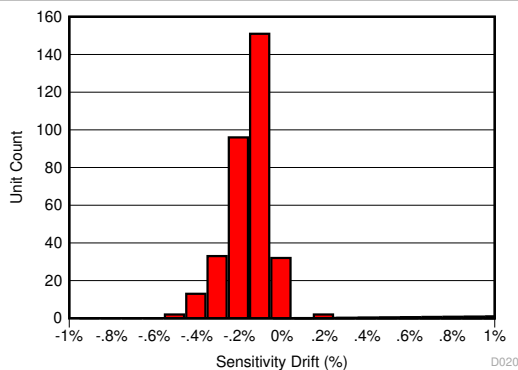
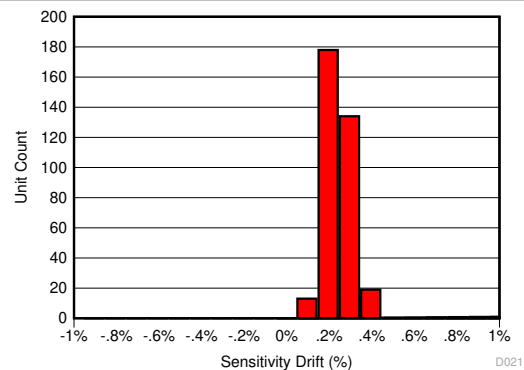
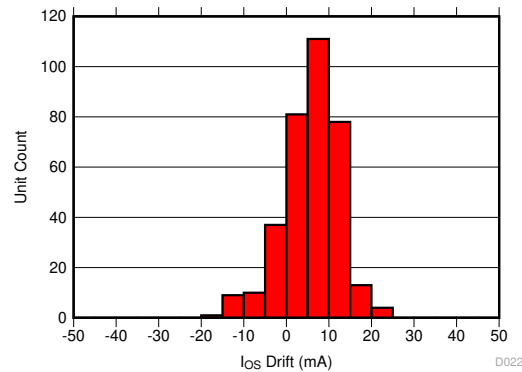

图 9-6. Sensitivity Error After 130°C, 85% RH HAST
图 9-7. Sensitivity Error Drift After AEC-Q100 High Temperature Operating Life Stress Test
图 9-8. Input-Referred Offset Drift After AEC-Q100 High Temperature Operating Life Stress Test
The same compensation techniques used in the TMCS1101-Q1 to reduce temperature drift also greatly reduce lifetime drift due to aging, stress, and environmental conditions. Typical magnetic sensors suffer from up to 2% to 3% of sensitivity drift due to aging at high operating temperatures. The TMCS1101-Q1 has greatly improved lifetime drift, as defined in the Electrical Characteristics for total sensitivity error measured after the worst case stress test during a three lot AEC-Q100 qualification. All other stress tests prescribed by an AEC-Q100 qualification caused lower than the specified sensitivity error, and were within the bounds specified within the Electrical Characteristics table. 图 9-6 shows the total sensitivity error after the worst-case stress test, a Highly Accelerated Stress Test (HAST) at 130°C and 85% relative humidity (RH), while 图 9-7 and 图 9-8 show the sensitivity and offset error drift after a 1000 hour, 125°C high temperature operating life stress test as specified by AEC-Q100. This test mimics typical device lifetime operation, and shows the likely device performance variation due to aging is vastly improved compared to typical magnetic sensors.